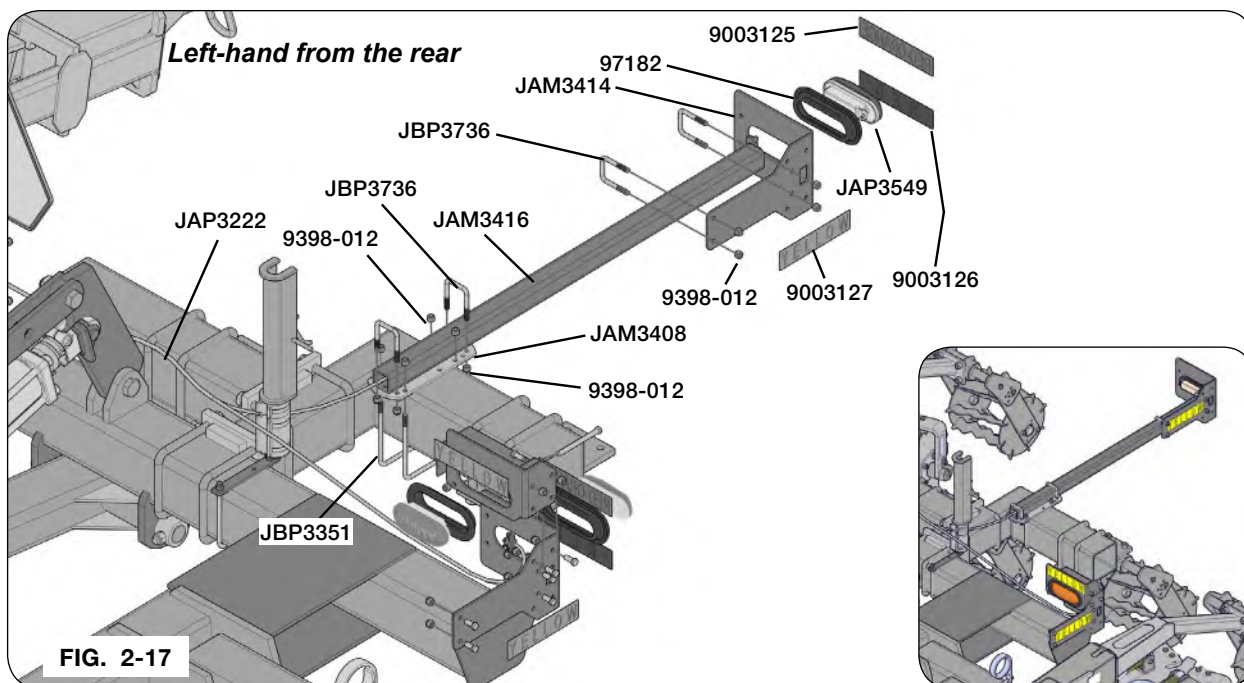

FIG. 2-17
1. Attach the light post mounting plate (JAM3408) with 3/8"-16UNC x 7" x 6 7/16" U-bolts (JBP3351) and 3/8"-16UNC elastic lock nut (9398-012). (FIG. 2-17)
4. Install oval grommet (97182) into rear light bracket (JAM3414). Insert red oval tail light (JAP3549). Attach rear electrical wiring harness (JAP3222) to red oval tail light (JAP3549). (FIG. 2-17 & FIG. 2-18)
7. Place orange decal (9003125) above red oval tail light (JAP3549) and red reflector (9003126) below. (FIG. 2-17)